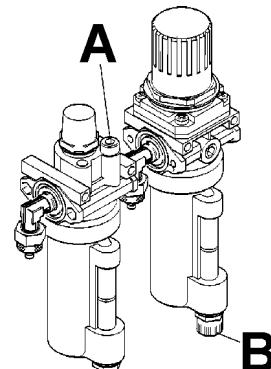

Fig. 6.0-3
- H. Discharge water from air filter every day!! Do this by turning the knob "B" clockwise and push upward. Water will automatically be discharged. (See 'B' at Fig. 6.0-3).